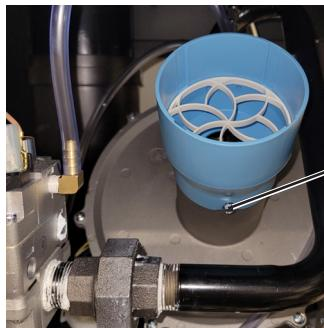

Figure 7.
10. INSTALL NEW BLUE ORIFICE: Use a 5/16" socket wrench or 5/16" ratchet wrench to secure the Blue air orifice. Reconnect the tubing onto the air orifice, see Figure 7.